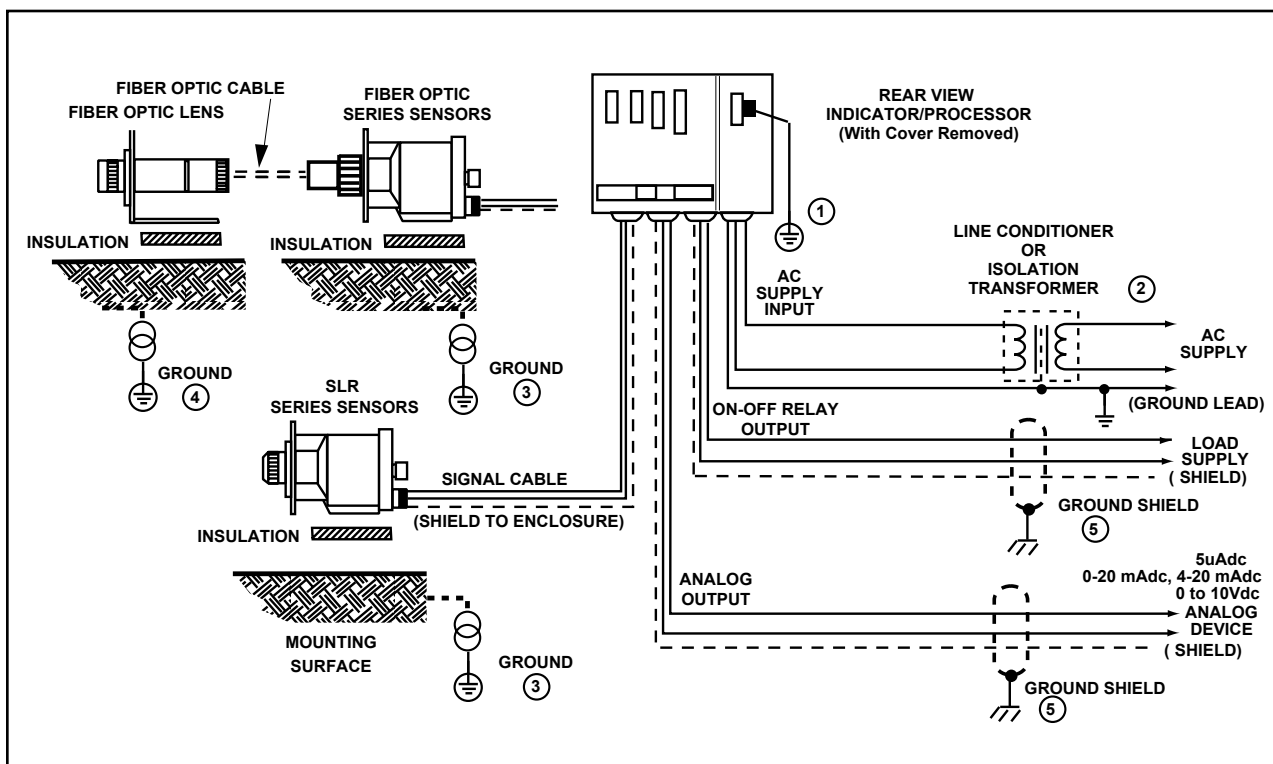

FIG. 3.14 – SUMMARY OF GROUNDING AND ISOLATION
The ideal solution is to power the MODLINE 3 from a separate ac line, independent of all interference producing equipment. If this is not practical, consider using a line conditioner or isolation transformer, as in Fig.3.14.
3. If the mounting surface of the Sensor is not at earth ground potential you must insulate the Sensor from surface as shown in Fig 3.14. The
4. Reimaging Lens or Extension Tips are held at the same electrical potential as the sensor housing by a metal shield of the fiber optic cable. If the mounting surface is not at earth ground. Insulate the Reimaging Lens, Extension Tips and Fiber Optic Cable, as shown in Fig 3.14.